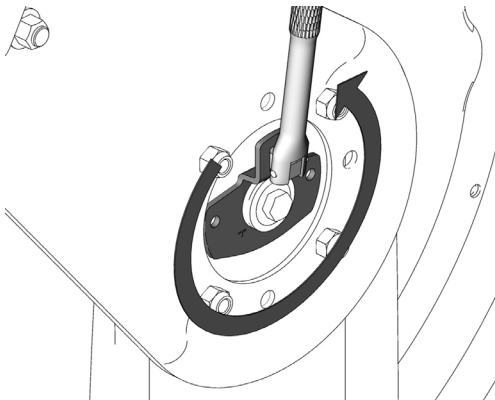

FIG. 13
4. Turn ratchet (C) one full turn counter-clockwise (FIG. 13).